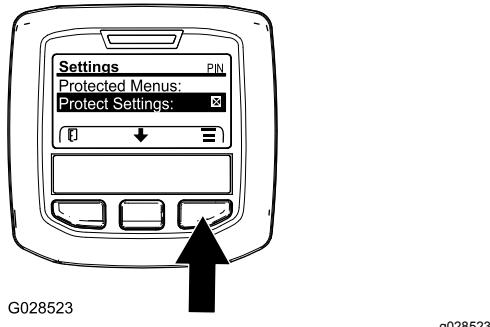

Figure 43
- Access the protected menu and unlock the protected settings submenu (Figure 43); refer to Accessing Protected Menus \(page 23\).